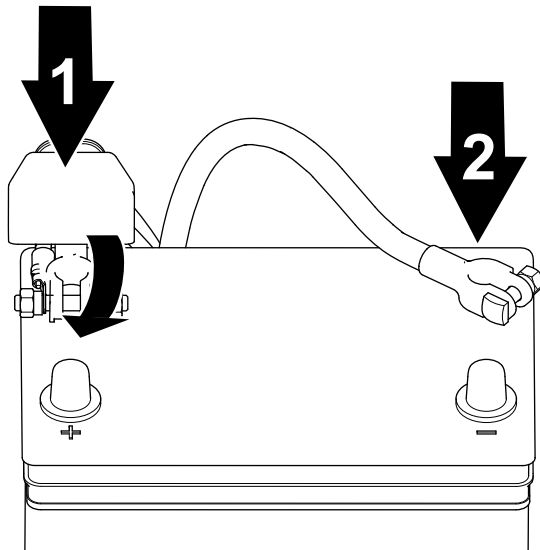

Figure 40
2. Connect the positive cable to the battery and tighten the battery-clamp nut (Figure 40).
3. Connect the negative cable to the battery and tighten the battery-clamp nut (Figure 40).